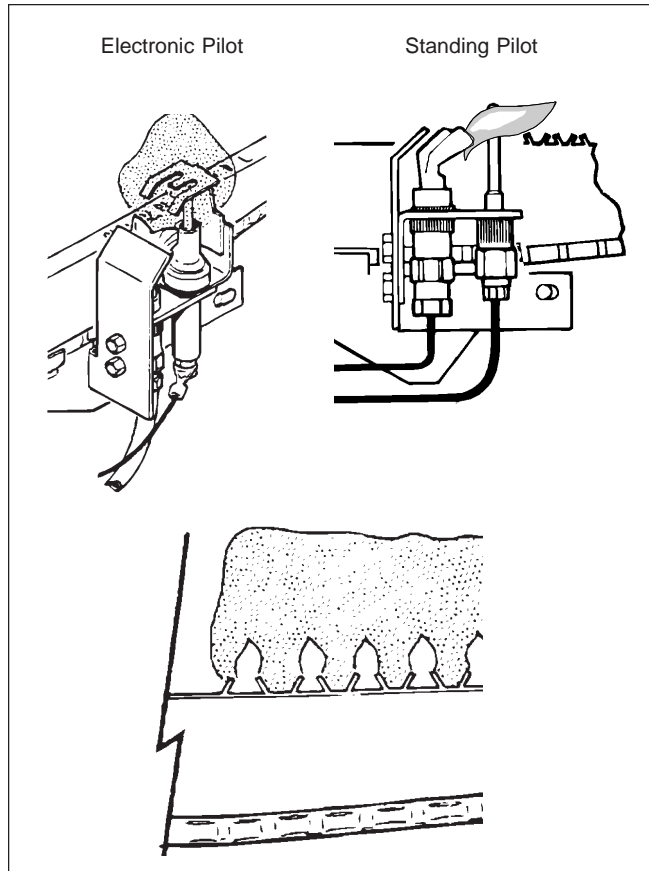

Figure 28. Flame patterns.
3. At startup and every 6 months after, look at the pilot and main burner flame (see Figure 28). If the flame has the appearance of sooting tips, check for debris near orifices. Call service technician.